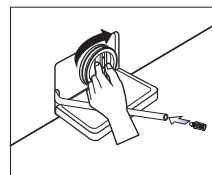

Fig. 14
- Insert the coin-trap cover and screw tight, close the service flap (Fig. 14)